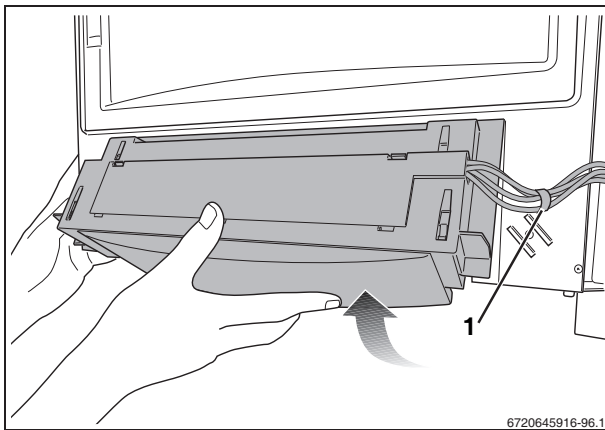

Fig. 95 Removing the control panel
- Loosen the cable tie (fig. 95, [1]).
- Remove the control panel (fig. 95).